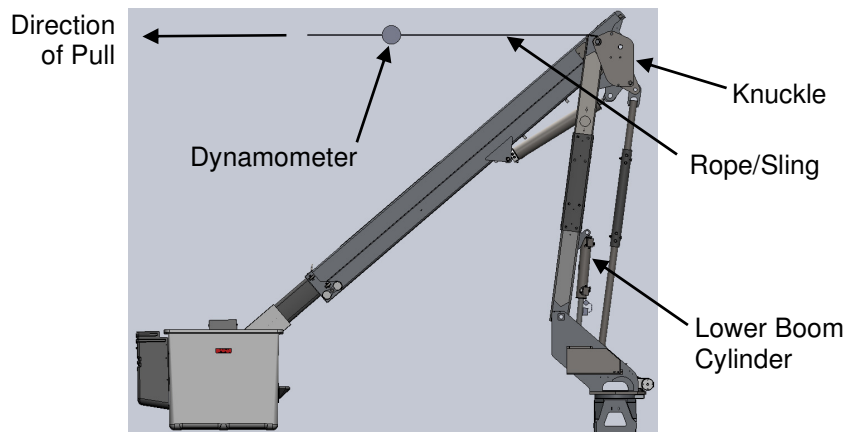

Figure 2. Test Setup
- b. Connect a suitable rope or sling to the knuckle of the machine being tested so it can be pulled as shown in Figure 2.
- c. Position booms from the lower controls over the rear of the carrier so that the lower boom is fully raised and the upper boom is lowered toward the ground, similar to Figure 2.
- d. Connect the rope/sling from Step b. to another machine (such as a bumper winch or recovery winch) with a loadcell or dynamometer visible from the ground, as shown in Figure 2.
- g. Use the second machine to create a pull load on the test machine up to 2000 pounds maximum. The direction of pull is over the top of the upper boom towards the basket using Figure 2 as reference.